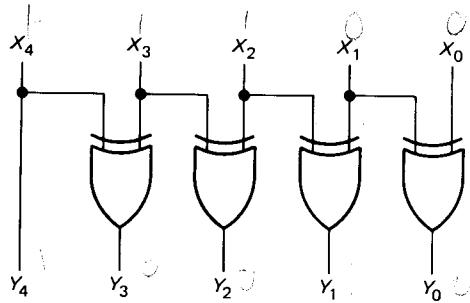

Fig. 3-36 Binary-to-Gray-code converter.
- 3-27. Figure 3-36 shows a binary-to-Gray-code converter. (Gray code is a special code used in analog-to-digital conversions.) The input word is $X_4X_3 \dots X_0$, and the output word is $Y_4Y_3 \dots Y_0$. What does the output word equal for each of these inputs?